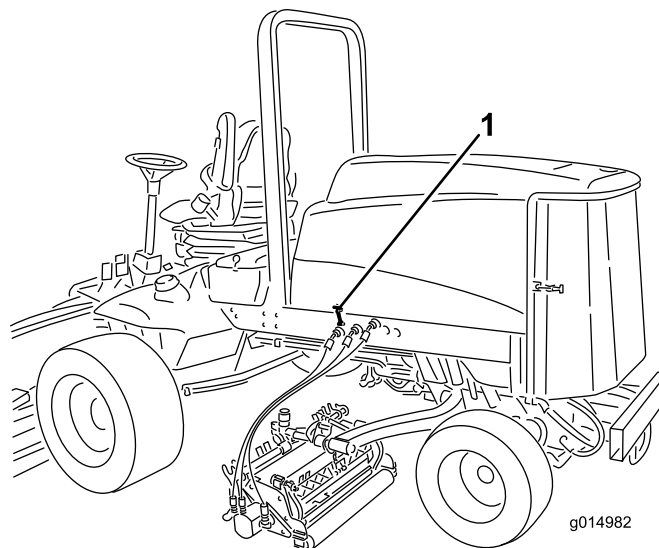

Figure 33
2. Unlock the hood latches and open the hood (Figure 33).